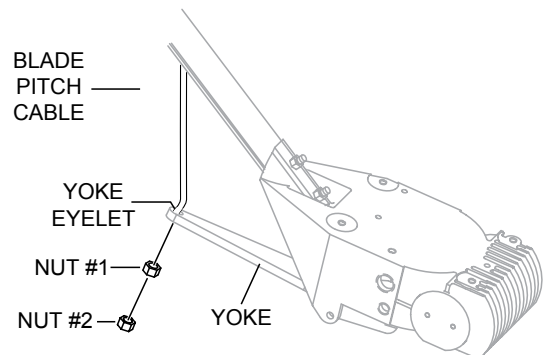

Figure 13. Pitch Cable Yoke Attachment
3. Insert the cable end through the yoke eyelet (Figure 13). Tighten conical nut #1 by hand to remove all the slack from the cable.